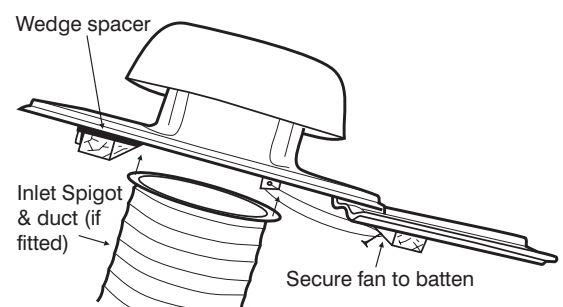

Figure 4.
5. Carefully slide the Tile Fan into position and from the inside of the roof space, secure the fan with wire passed through the hole in the fixing bracket. (See Figure 4.)
6. Fit the wedge spacer between the batten and the Tile Fan base so that the fan fits tightly under the adjacent tile. (See Figure 4.)